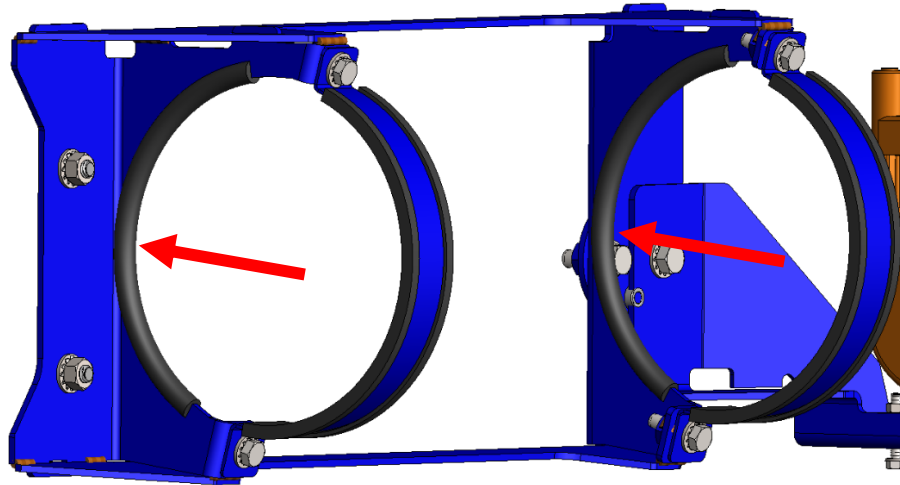

Figure 23 - Rubber Strips Attached to Tank Bracket and Tank Straps
10.6.1. Attach Rubber strip #15 (Thin "U") to Tank Bracket, shown with red arrows in Figure 23 below.